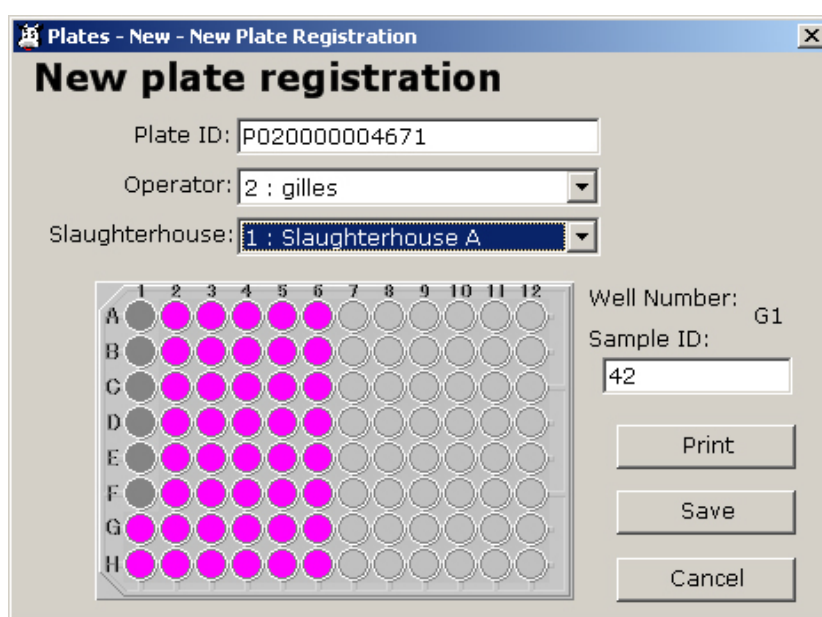

Fig 5.1.2-1 : Sample entry
- (7) To continue editing samples with the automatic increment entry mode, click on the intended well, and, while holding simultaneously the mouse's left button down and control (Ctrl) key, drag the mouse up to the last sample position. The highlighted area will automatically be incremented and registered one by one starting from the first sample ID input (Fig. 5.1.2-1).